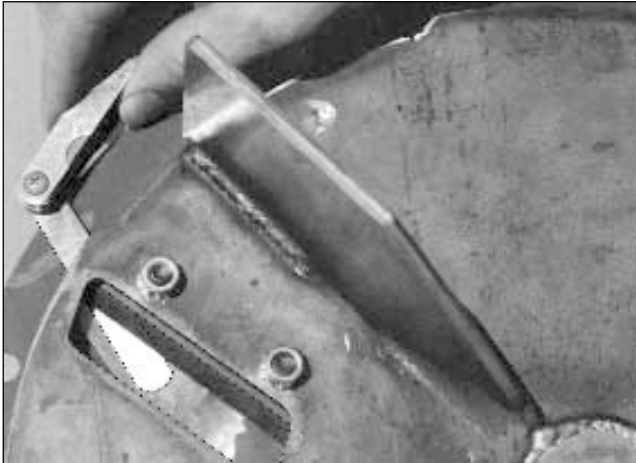
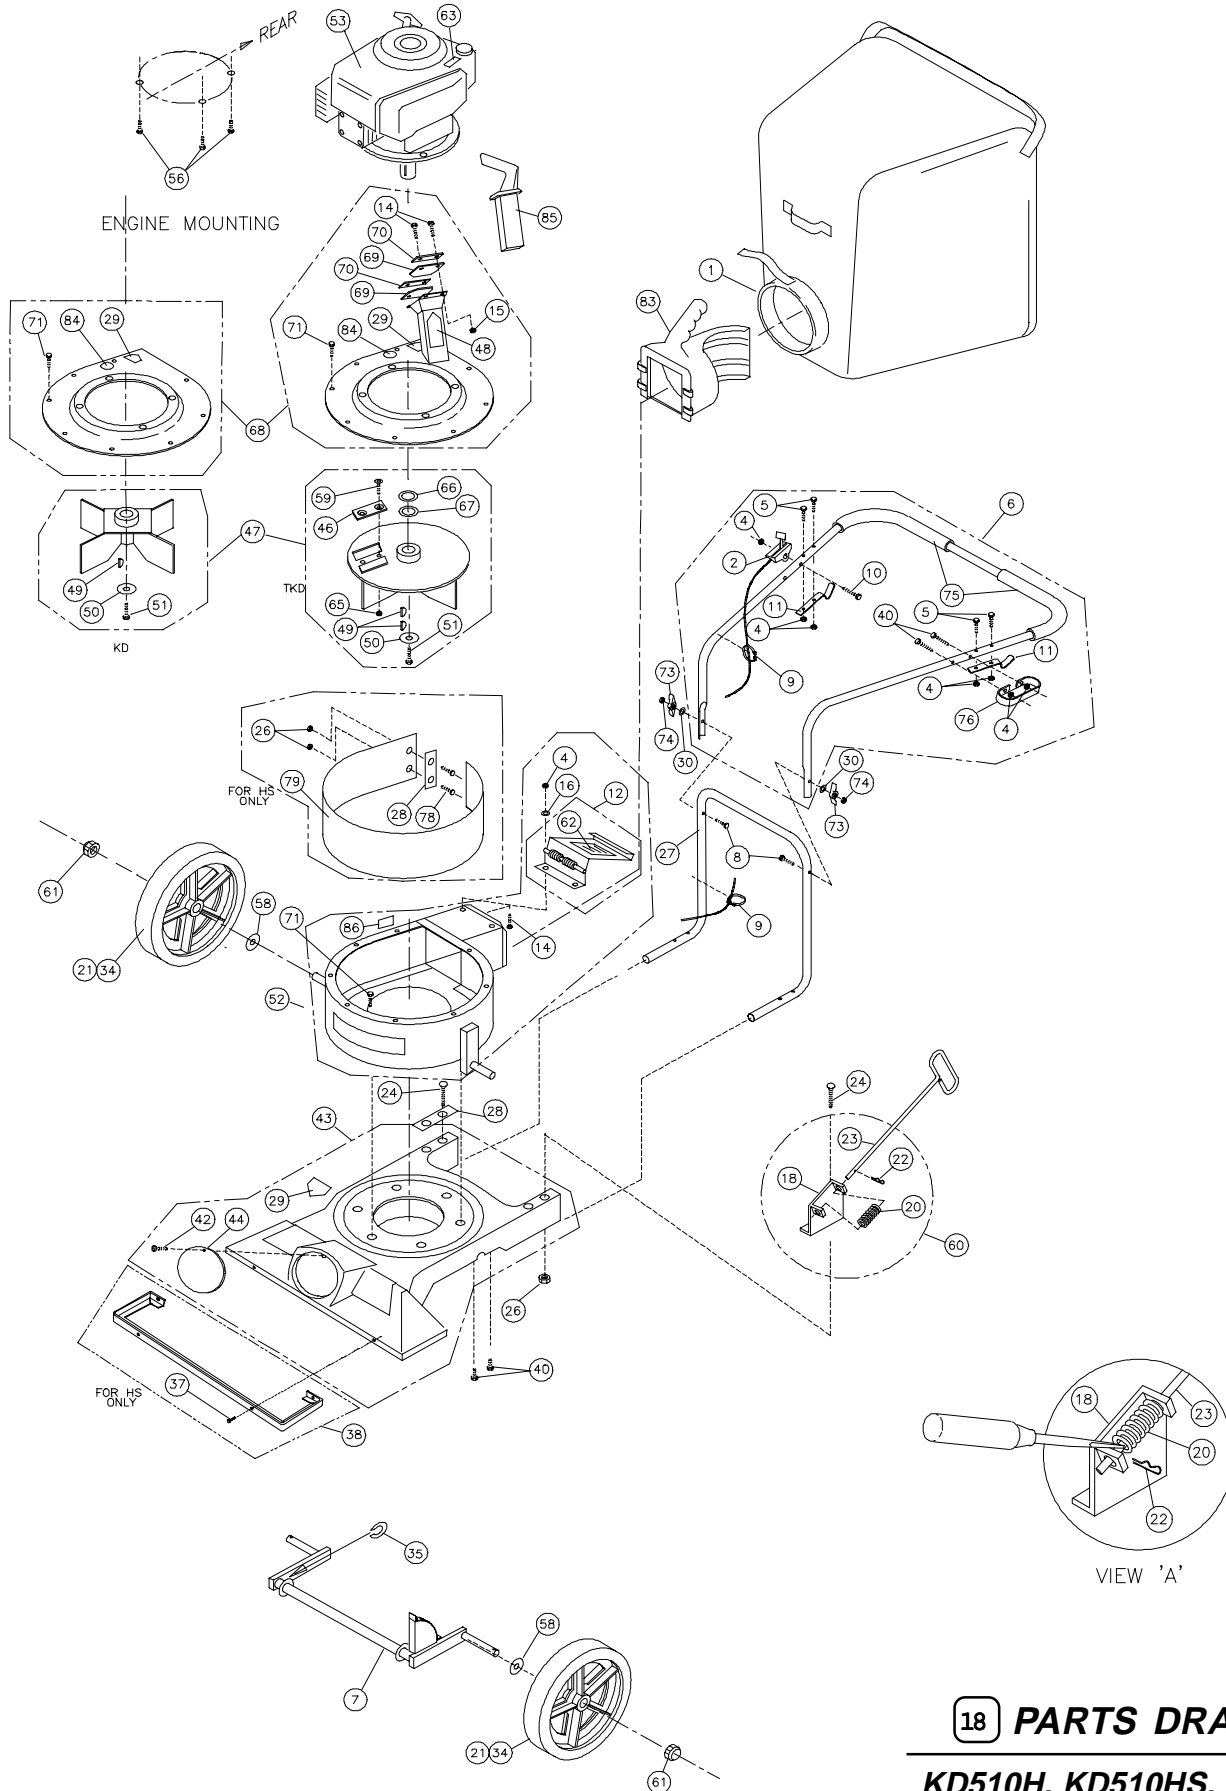

fig. 6
fig. 7
6. Retain shim washers used at end of crankshaft for use at impeller reinstallation (see fig. 7). However, your unit may or may not have required the use of shim washers.
15. Tighten impeller bolt. Torque impeller bolt to 50 Ft. Lbs. (68 N-m) (see item 51 on page 11).
17. If gap is less than 0.040" (0.51 mm), add shim washer 890130 (0.060" {1.52mm} thick) and/or 890131 (0.020" {1.02mm} thick), whichever is required. If gap is more than 0.080" (2.03mm), remove one or more shim washers as needed to obtain correct gap (see fig. 6 & fig. 7). The chipper will function at up to a maximum of 0.125" (3.18mm) gap.